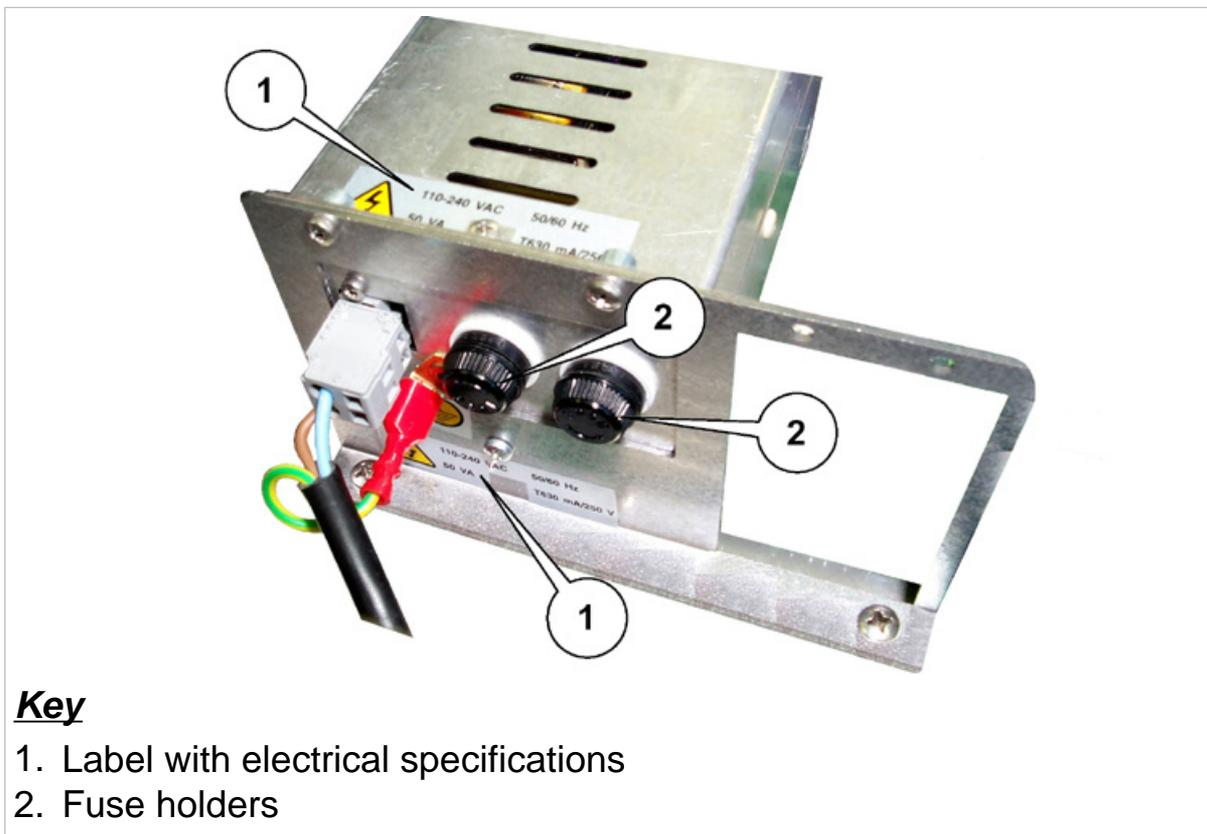

Figure 7.1 - Fuse holders (citi0613.jpg)
- ✓ Refer to *Figure 7.1 on page 1-91*.